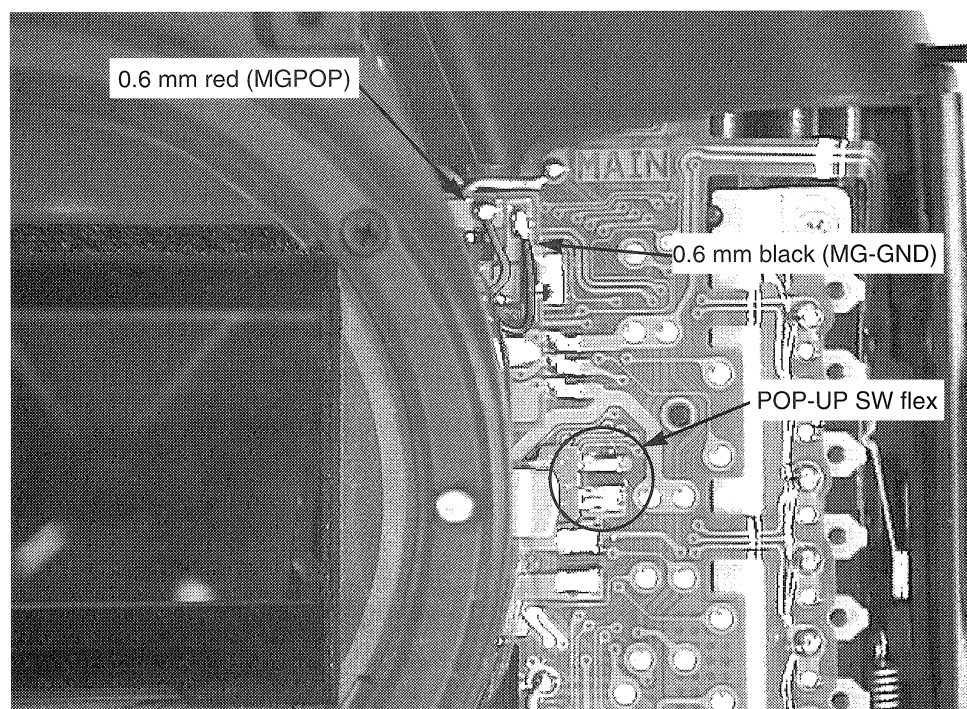

Figure 3-13 Flash Pop-up Magnet Leads
5. Remove the comb connector from the flash pop-up switch flex. (Fig. 3-13)
6. Disconnect the flash pop-up magnet leads. (Fig. 3-13)